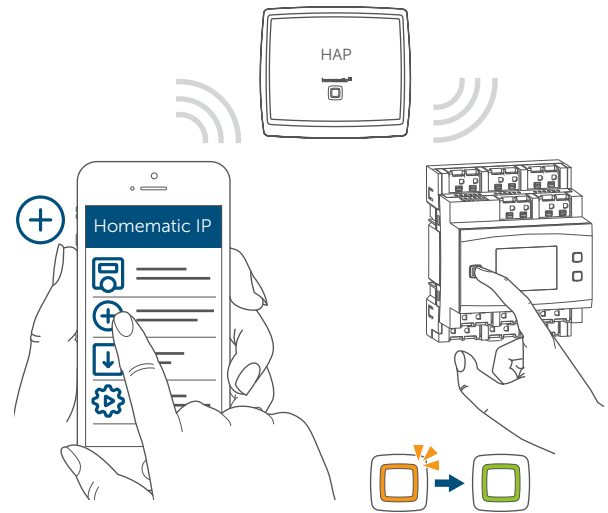

Figure 8
i You can manually start the pairing mode for another 3 minutes by pressing the system button (A) briefly (see figure 8).